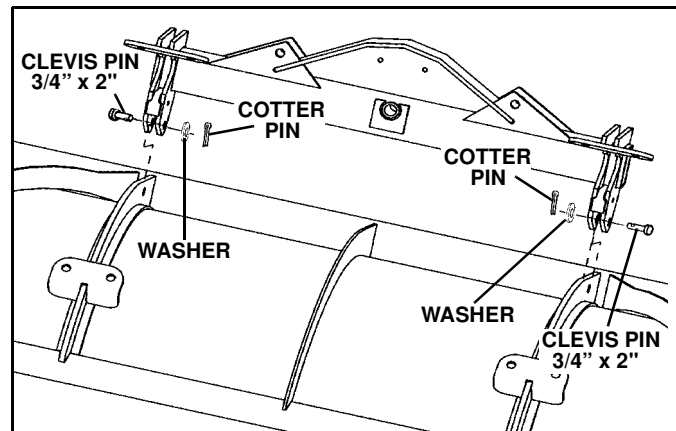

Figure 2-2
4. Place swing frame on blade and insert 3/4" x 2" clevis pin from blade parts bag. The ribs on either side of the center rib should be between the swing frame lugs. (See Figure 2-2)